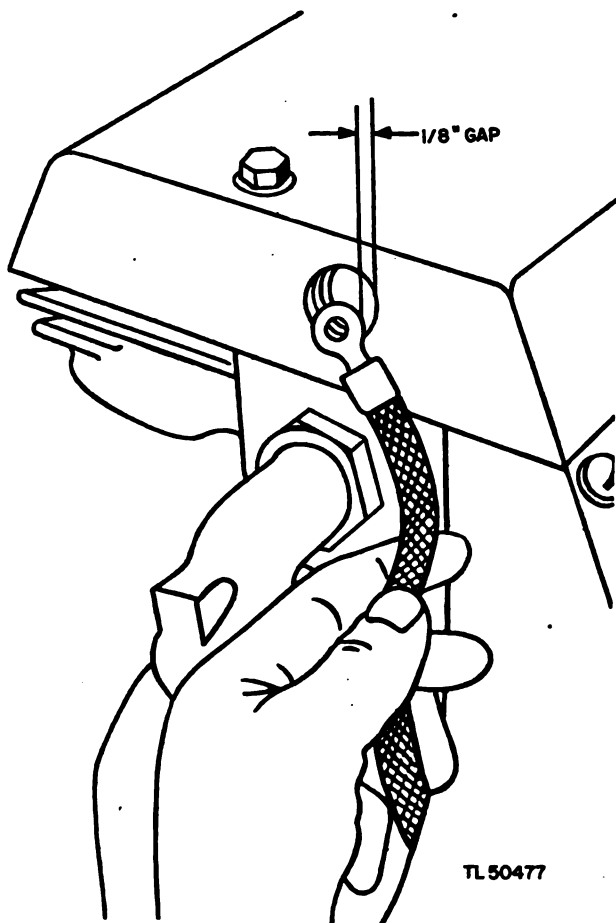

Figure 64. Checking spark.
e. IGNITION SYSTEM, BRIGGS AND STRATTON ENGINES, MODEL AP, TYPE No. 208286. (1) *General.* The ignition spark is produced by a high-tension magneto inside the flywheel. The magneto, as well as the cable and spark plug, must be in proper condition and adjustment to insure a good hot spark.
(2) *Checking for spark.* (a) Remove the ignition cable from the plug. Remove the plug. Hold the ignition cable terminal about $\frac{1}{8}$ inch from any metal part of the cylinder head. (See fig. 64.)